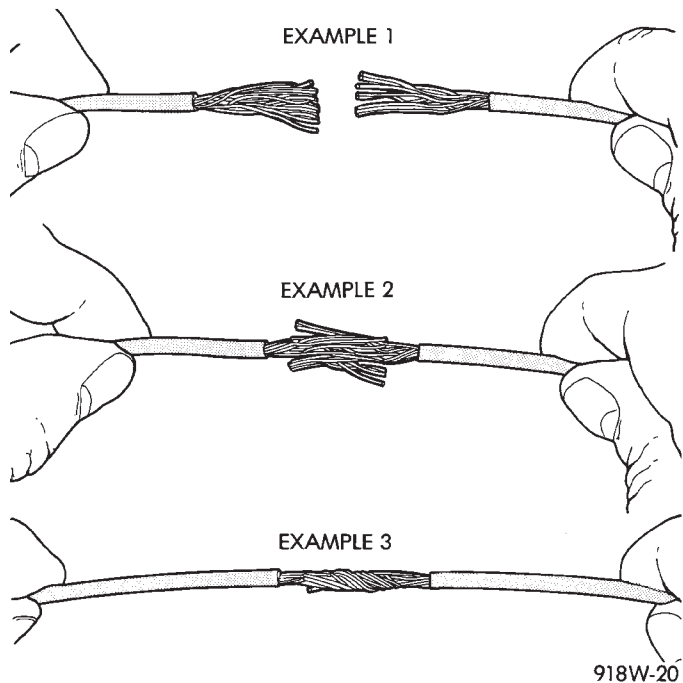

Fig. 11 Wire Repair
- (1) Disconnect battery negative cable
- (2) Remove 1 inch of insulation from each end of the wire.
- (3) Place a piece of heat shrink tubing over one side of the wire. Make sure the tubing will be long enough to cover and seal the entire repair area.
- (4) Spread the strands of the wire apart on each part of the exposed wire (example 1). (Fig. 11)
- (5) Push the two ends of wire together until the strands of wire are close to the insulation (example 2) (Fig. 11)
- (6) Twist the wires together (example 3) (Fig. 11)
- (7) Solder the connection together using rosin core type solder only. **Do not use acid core solder.**
- (8) Center the heat shrink tubing over the joint, and heat using a heat gun. Heat the joint until the tubing is tightly sealed and sealant comes out of both ends of the tubing.
- (9) Secure the wire to the existing ones to prevent chafing or damage to the insulation
- (10) Connect battery and test all affected systems.